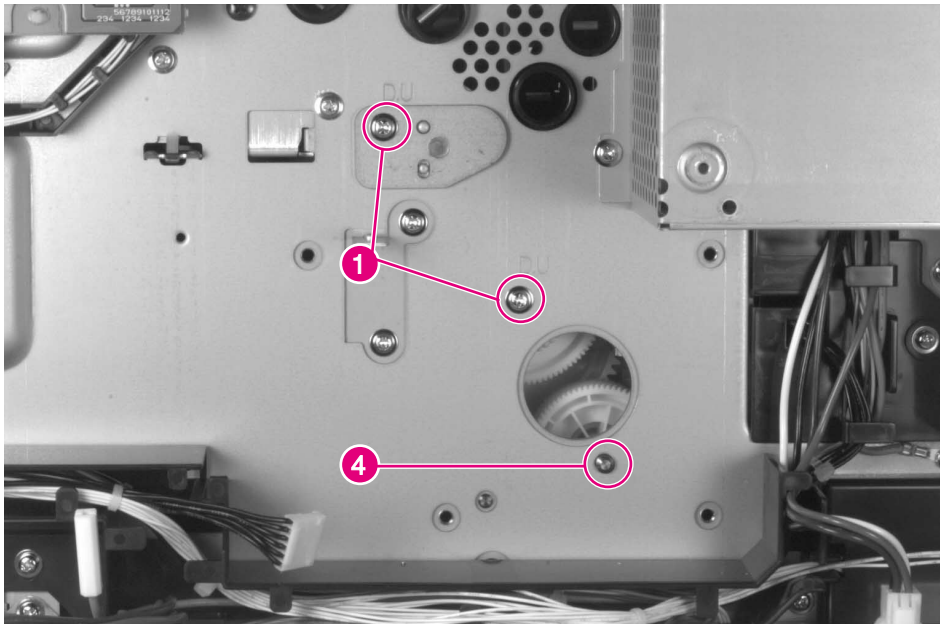

Figure 6-38 Main Gear Assembly (1 of 3)
- 2 Remove 2 screws (figure 6-38 on page 306, callout 1).
- 4 Make sure that the locating pins are properly aligned and that the gear assembly fits tightly against the chassis before replacing the screws (figure 6-38, callout 4).